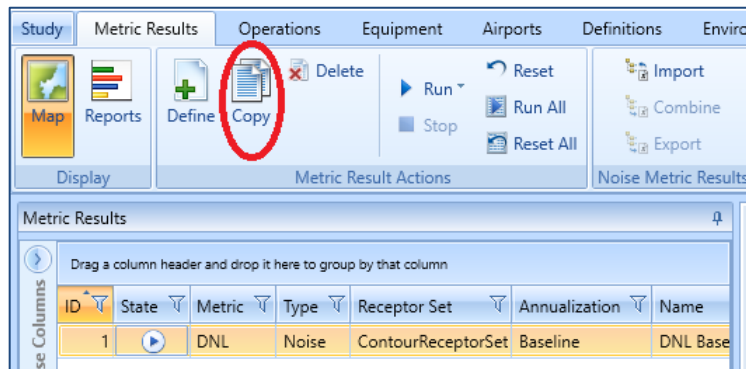

Figure 32. Copy Metric Result
1. Click on the Baseline metric result, and click *Copy* from the *Metric Results Actions* ribbon group (Figure 32).